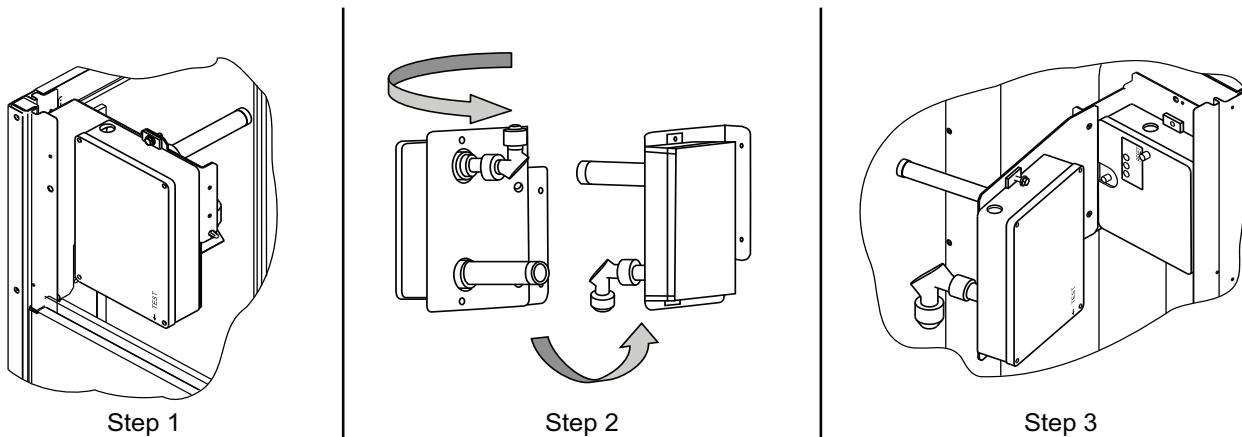

Fig. 77 — Completing Installation of Return Air Smoke Sensor
1. Unscrew the two screws holding the return air smoke detector assembly. See Fig. 77, Step 1. Save the screws.
2. Turn the assembly 90 degrees and then rotate end to end. Make sure that the elbow fitting is pointing down. See Fig. 77, Step 2.
3. Screw the sensor and detector plate into its operating position using screws from Step 1. See Fig. 77, Step 3.